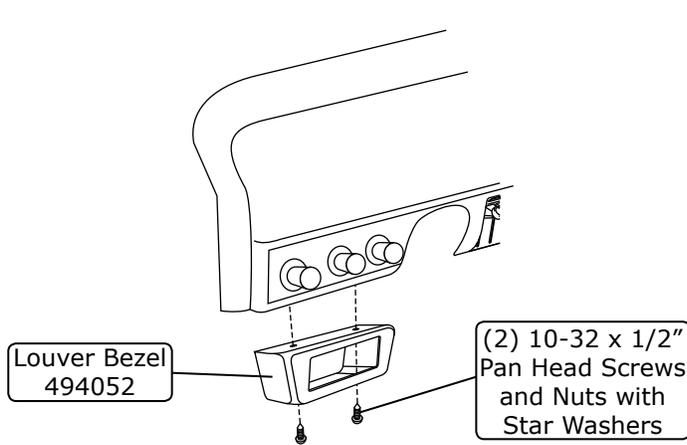

Figure 12
1. Align the louver bezel under the dash, and use the bezel as a guide to mark and drill (2) 3/16" holes under the dash.
2. Secure the louver bezel under the dash using (2) 10-32 x 1/2" pan head screws and (2) 10-32 nuts with star washers (See Figure 12, below).